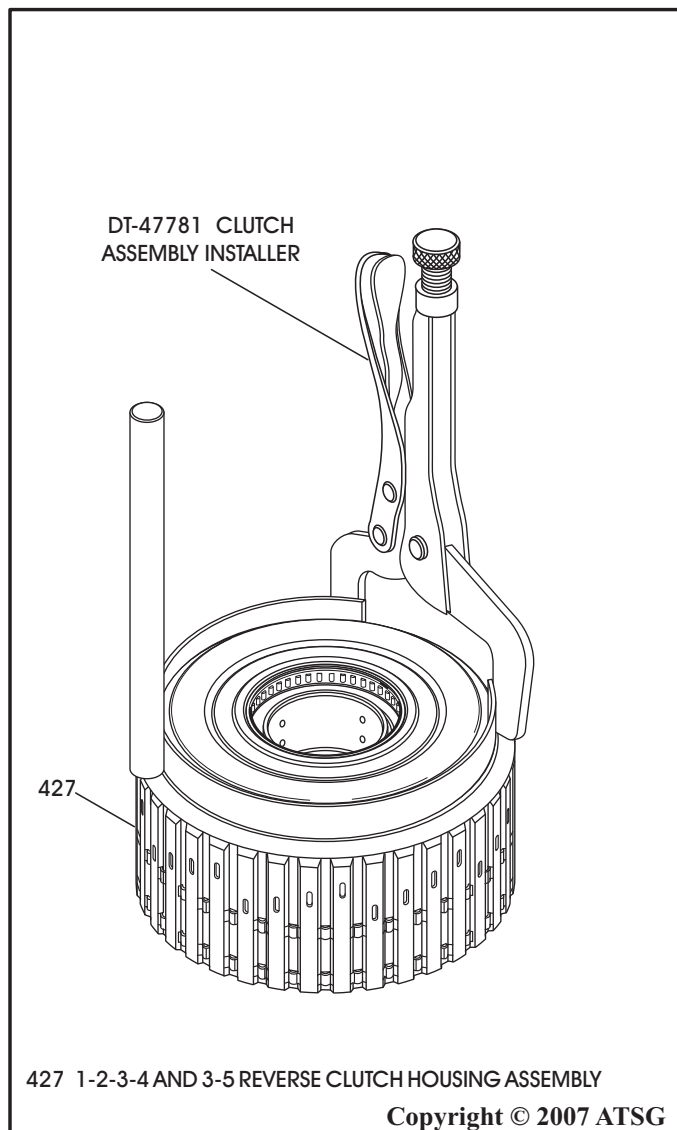

Figure 164
22. Place the completed 1-2-3-4 and 3-5 reverse clutch housing on a flat surface, as shown in Figure 164.
23. Install the DT-47781 clutch assembly installer over 1-2-3-4 and 3-5 reverse clutch housing, as shown in Figure 164, and close the vise grip type clamp.